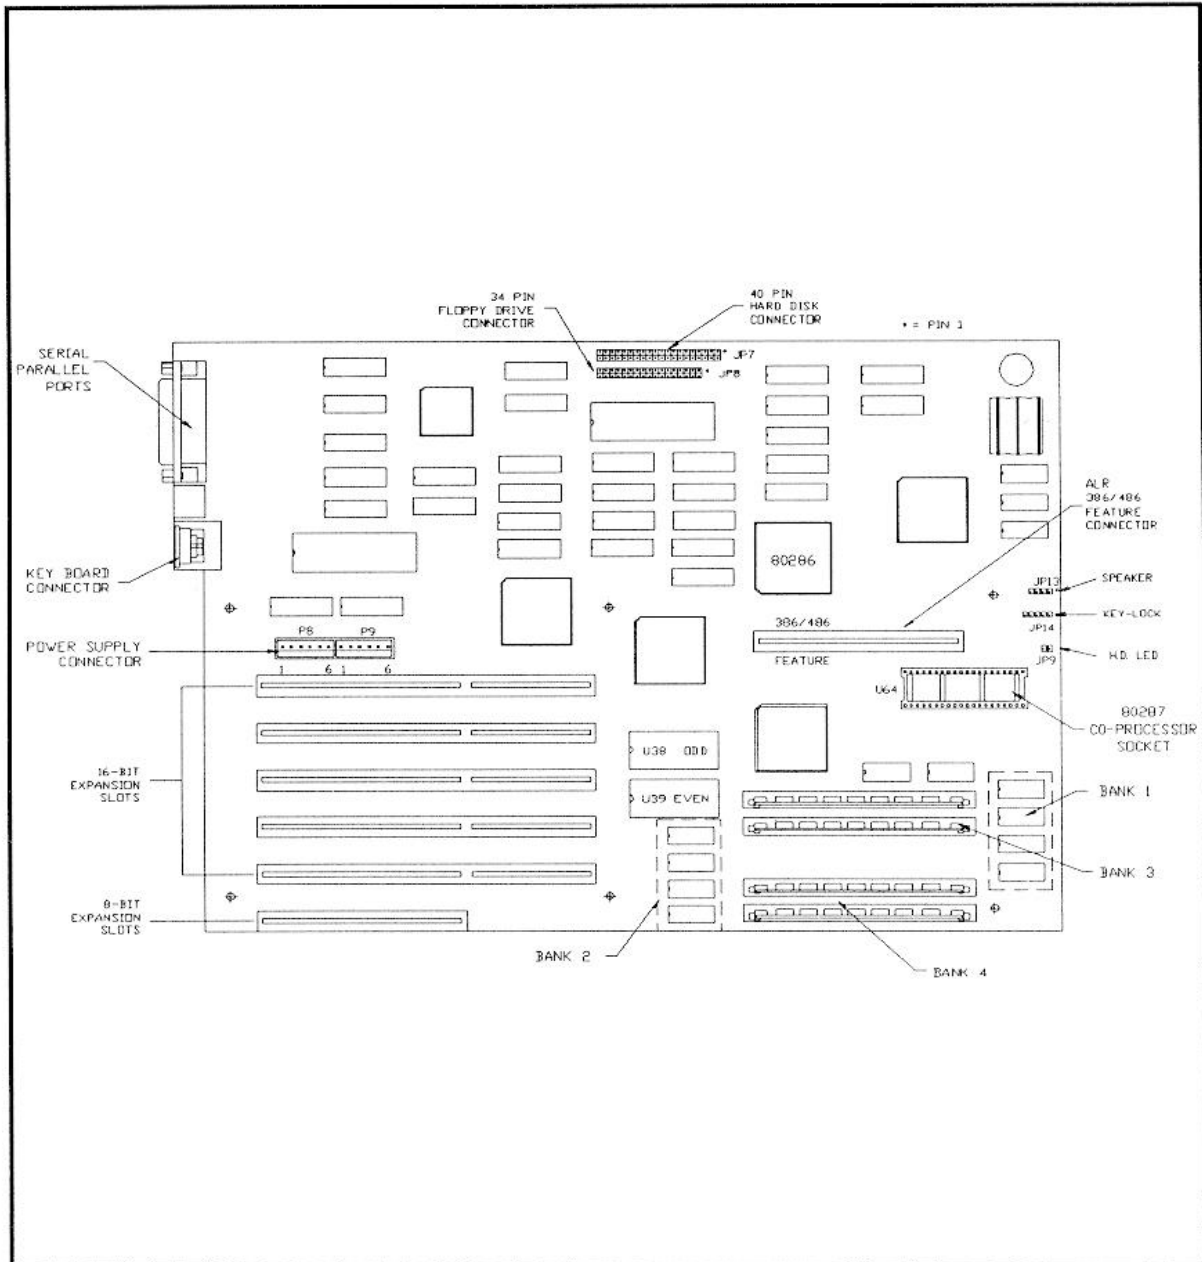

Figure 4-2: PowerFlex 286 Motherboard
Figure 4-2 shows the location of various components on the PowerFlex 286 motherboard. This six-slot motherboard has a bus speed of 8-MHz and contains one serial port, one parallel port, and circuitry for the floppy and hard disk controllers. The following subsections describe the memory configuration and the serial port, parallel port, floppy disk and hard disk controllers.
1. Insert a thin screwdriver blade between the SIMM and one of the latches (as shown in Figure 4-2) holding the SIMM in place.